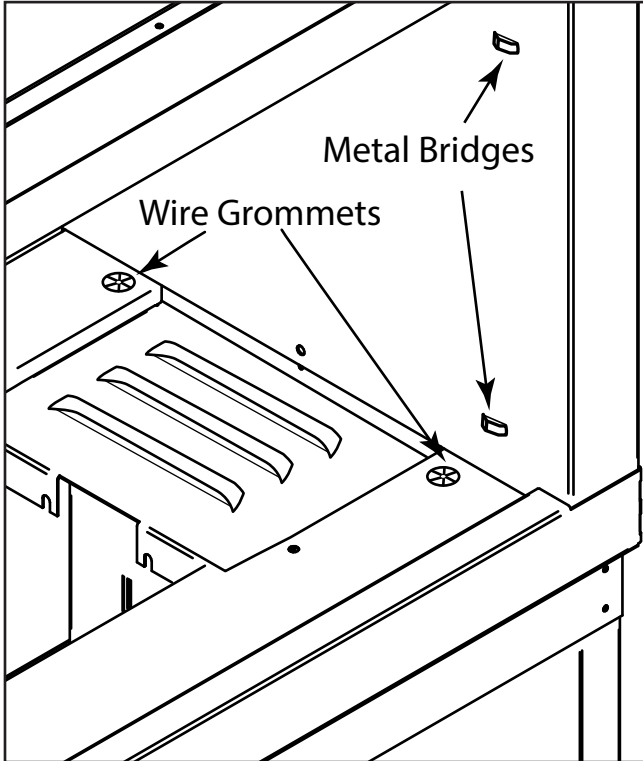

Fig. 3 Locating wire grommets
**Step 2: Locate Wire Grommets Inside Firebox:** Locate the wire grommets inside the firebox. See Fig. 3. Directly above them will be a two metal bridges to install the glass panel clips. Remove the glass panel clips from the packaging.
**CAUTION:** The metal glass clips may have sharp edges, handle with care. **Note:** A see-through fireplace use (2) on each left and right side.